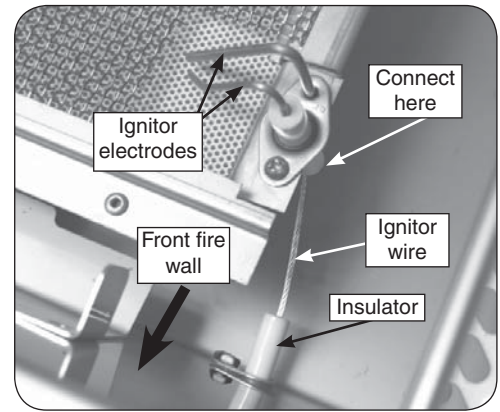

Fig. 4-1 Connect bare wire to electrode assy.
4. Connect the bare end of the ignitor wire to the bottom of the electrode assembly on the infrared burner (see Fig. 4-1).